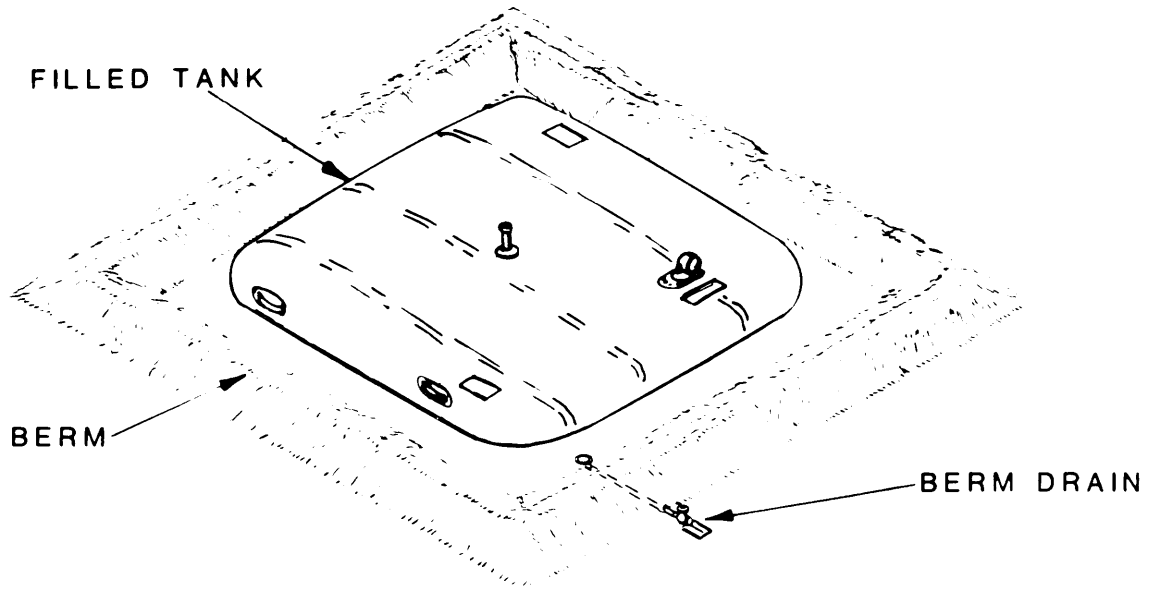
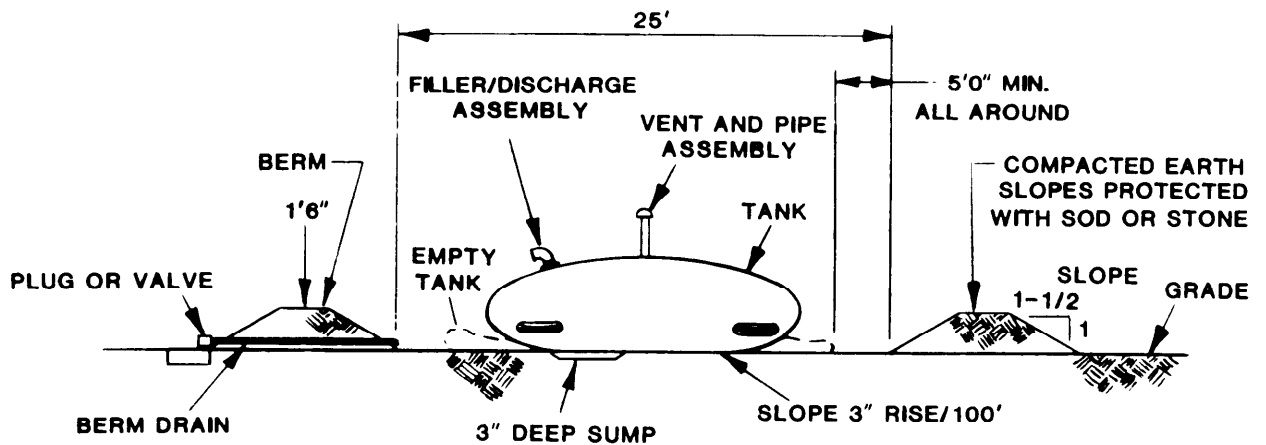

Figure 2-7. Bermed Site
Figure 2-8. Tank Site
- e. Berm Construction (See Figure 2-7). The site must be bermed to contain the flow of fuel in case of tank rupture or leakage. The tank may be filled before it is bermed if the situation dictates. However, normal procedures are to berm the site area before the tank is filled. An erected berm (Figure 2-8) should have the following characteristics:
- (1) At least a 5 foot (1.5 m) working area between the tank and the berm walls.
- (2) Wall height should be 1.5 feet (45.7 cm). This will provide an internal volume of at least 937.5 cubic feet (26.61 cubic meters) or 7,000 gallons.
- (3) Walls should be protected against erosion with a covering of sod or stone
- (4) A drain pipe and valve should be placed through the berm at the low end of the site to remove accumulated rainwater. This drain is normally closed and can be opened as needed.